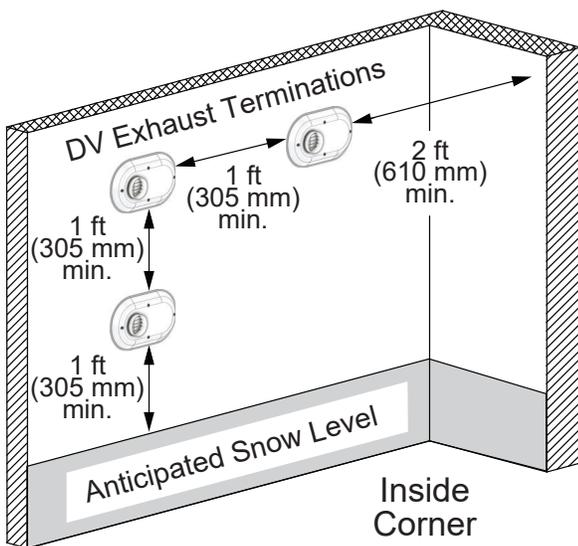

Figure 25 - Multiple DV Sidewall Terminations
A direct vent (DV) termination must be at least 1 ft. (305 mm) from another DV termination and 2 ft. (610 mm) from an inside corner (Figure 25).